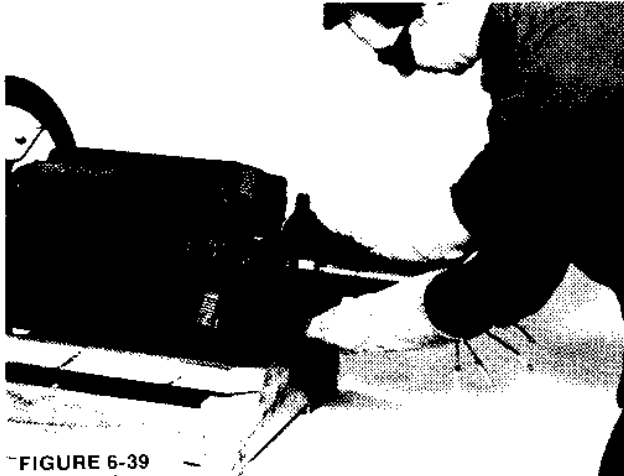

FIGURE 6-39
4. Heat the new bearing in an oven to a maximum temperature of 212°F (100°C). Apply a thin coat of clean lubricating oil to the press-fit area of the rotor shaft. Using suitable heat resistant gloves, install the bearing over the end of the shaft until it seats against the shaft shoulder. (Figure 6-39.) The bearing should slide on the shaft and be seated without excessive force. If the bearing binds on the shaft before being fully seated, a piece of tubing, slightly larger than the press-fit area, can be used to drive the bearing into place. Using light taps with a soft mallet, apply pressure to the inner race only.